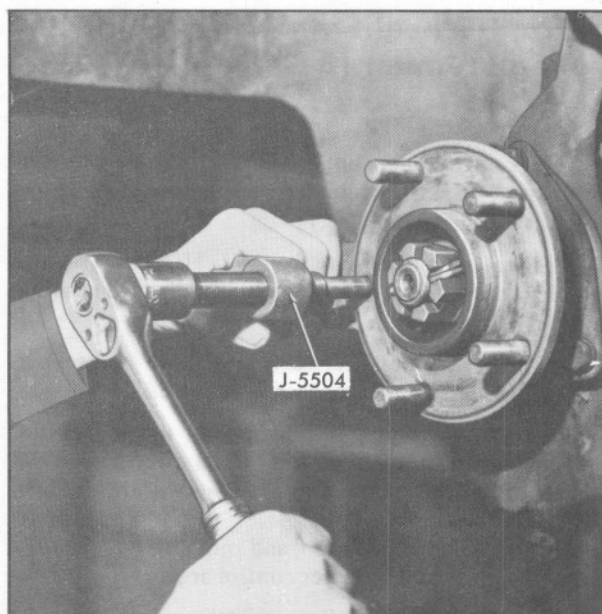

Fig. 3-6 Removing Stud (E-Car Front)
7. Install tool J-5504 on damaged stud and press stud from hub, Fig. 3-6.